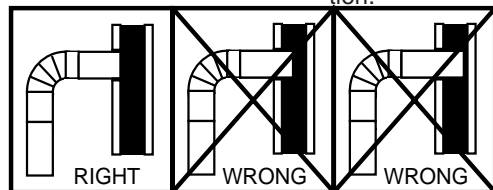

Fig. 8
4. The pipe cannot extend into the chimney flue. (Fig. 8)
1. The connection pipe may be pushed into the chimney too far, stopping the draft (Fig. 8).